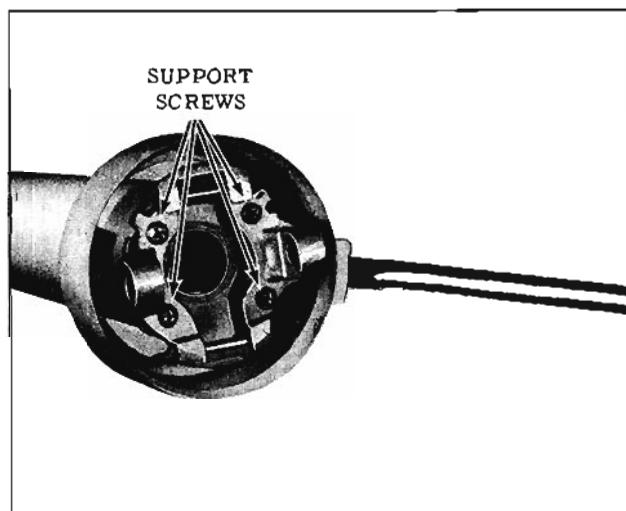

Fig. 8-104 Support Screw Location
1. Remove the four support screws, then lift the support from the mast jacket. (Fig. 8-104)